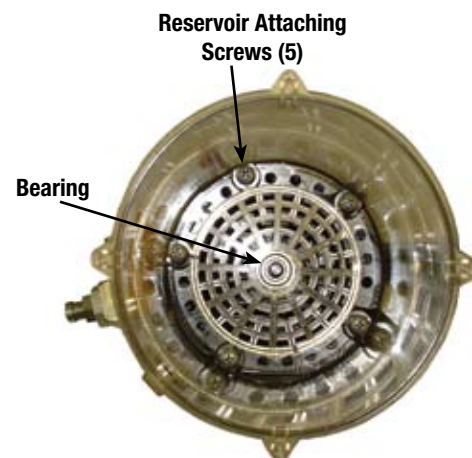

Figure 3-4
3.4 REPLACING ECCENTRIC SHAFT BEARING (SEE FIG 3-4)